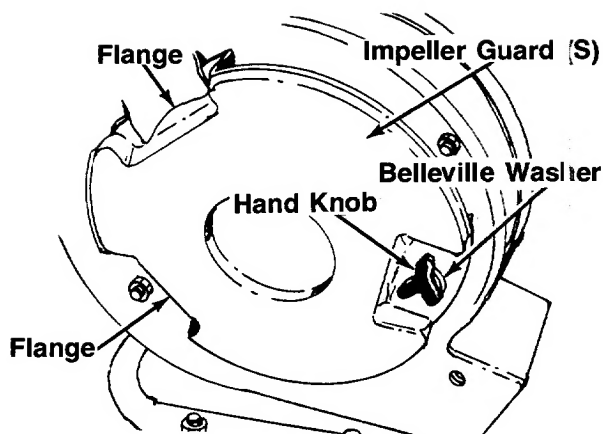

FIGURE 13.
4. Lift up and out on the housing and rotate it 105° clockwise. Chute opening should be to the right hand side when viewed from the front of unit. See figure 13.
5. Place the impeller guard (S) into flanges on front of housing. Line up hole in guard with hole on housing. Secure with one hand knob and belleville washer. See figure 13.